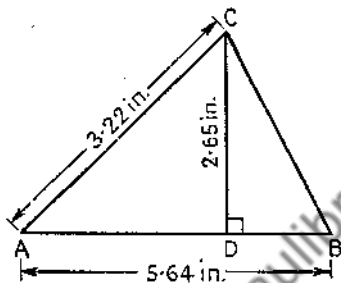

Fig. 19
(3) A triangle  $ABC$  has sides  $AB$  and  $AC$  of lengths 5.64 in. and 3.22 in. respectively and the length of the perpendicular from  $C$  to  $AB$  is 2.65 in. Calculate the length of  $BC$  (fig. 19).